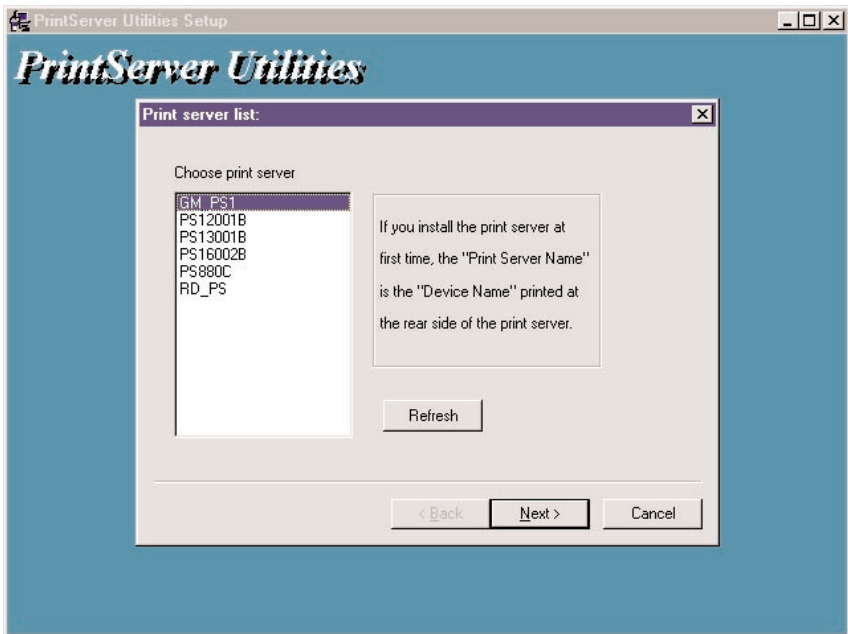

Figure 4-8. Choose print server.
8. To stop the installation, click on the **Cancel** button. To complete the installation, do not click on the **Cancel** button; just wait for the program to finish the installation. Once it's done, Figure 4-8 will appear.